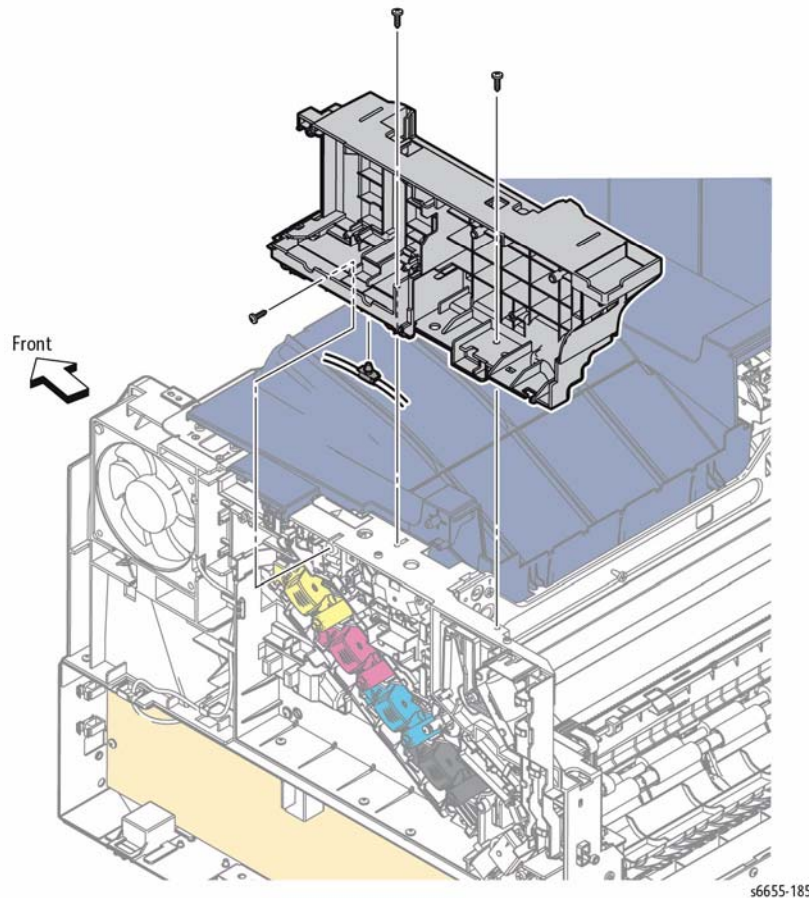

Figure 2 Remove the Right Side Inner Cover
7. Refer to Figure 2 to locate and release the harness clamp from the bottom of the Right Side Inner Cover, and to remove the three screws (silver, tapping, 8 mm) attaching the Right Side Inner Cover to the printer; then remove the cover.
Latch the top of the harness guide for the Stapler Sub LVPS harness into the Right Side Inner Cover after replacing the cover (Figure 2).